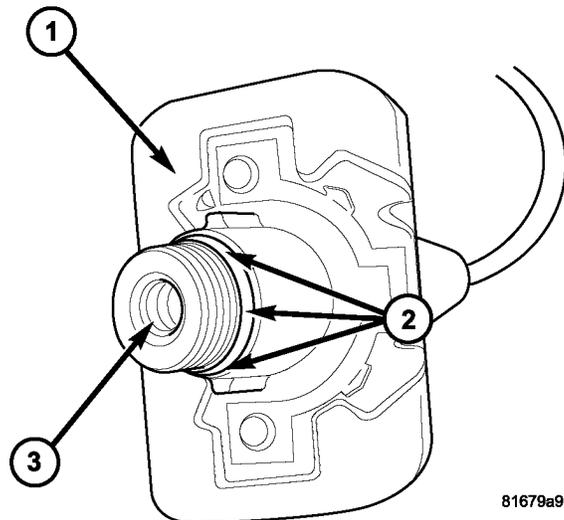

Fig. 1 ANTENNA BASE & INSULATOR
6. Thoroughly clean the antenna cap nut and the entire antenna base of any brass filings. Verify that no brass filings are present on the top surface of the molded-in black insulation in the antenna base (Fig. 1).